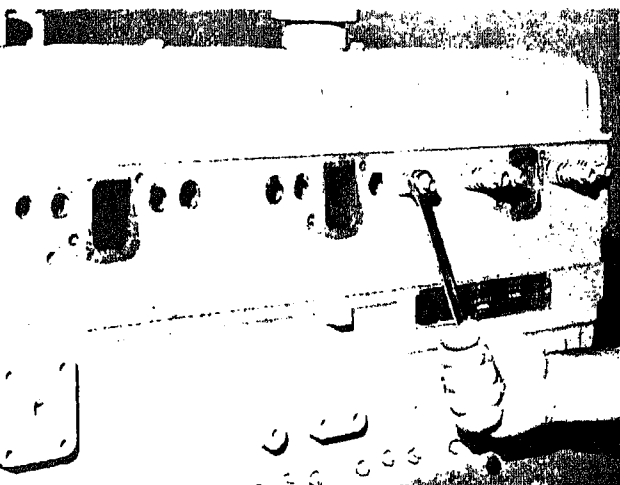

Fig. 0-21. Loosening fuel inlet and drain connections
1. Place wrench on nut closest to spring and screwdriver on connections out of injector; repeat this procedure until connections are loose, Fig. 0-21.